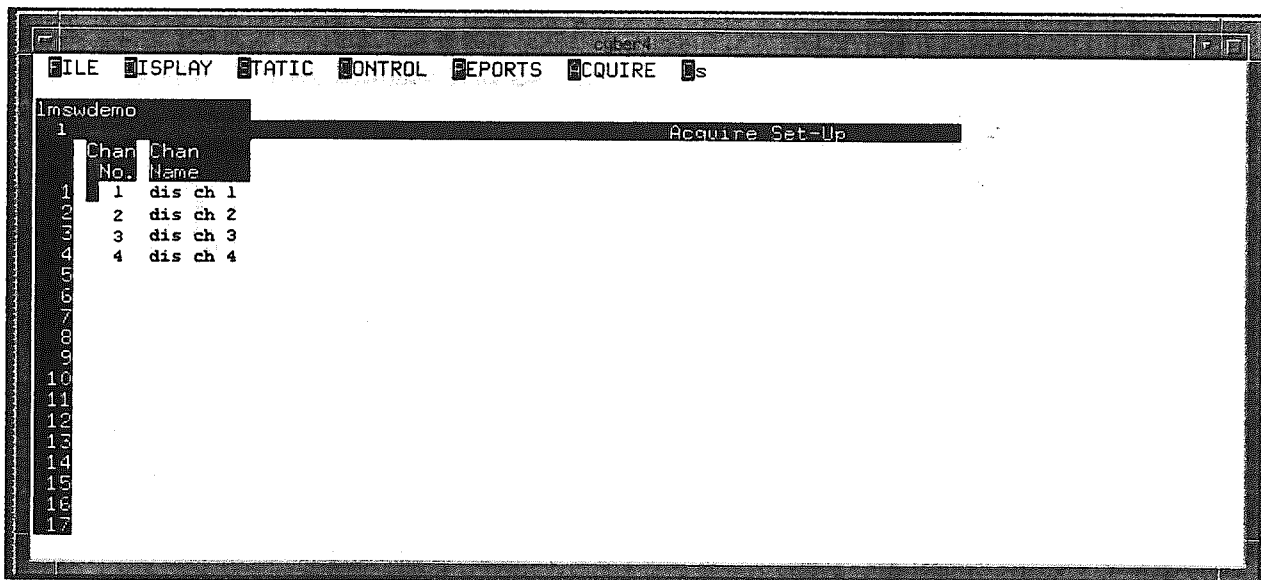

Figure 8-6 Displacement Transducer Setup Screen
- Step 1:** Select the **ACQUIRE** menu, **Disp. Setup** option. The Displacement Transducer Spreadsheet screen, **Figure 8-6** is displayed.